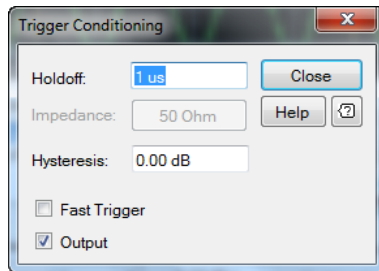

Figure 2-43 Trigger Conditioning dialog
- 4 Select **Conditioning...** on the Trigger Setup dialog to display the Trigger Conditioning dialog as shown in Figure 2-43.